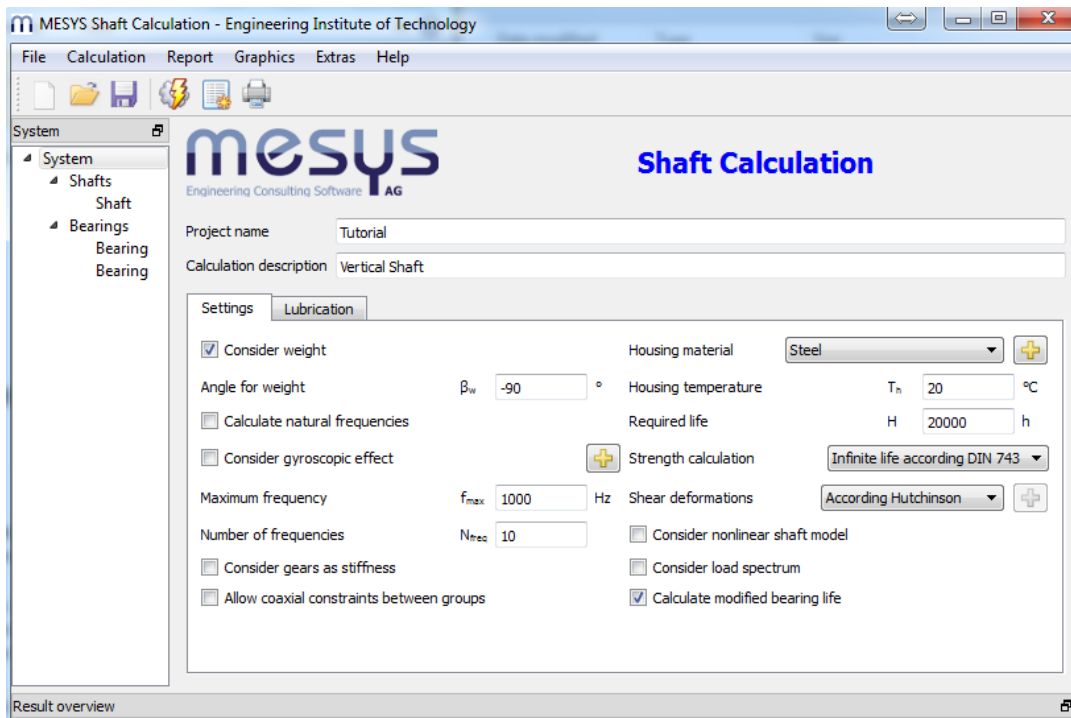

Figure 1
- Make sure that the parameters shown in figure 1 are selected.